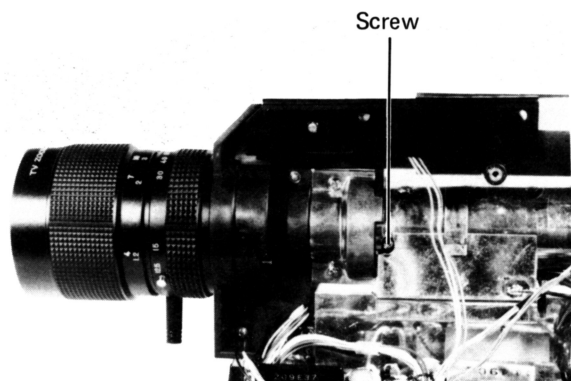

Fig. 3-7
2. Loosen the vidicon screw as shown in Fig. 3-7.